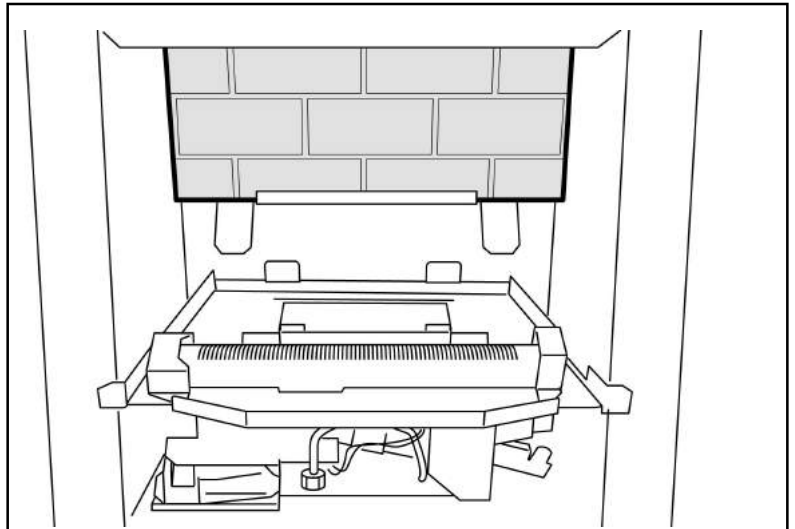

Figure 28. Ceramic rear wall installation
1. Fit the ceramic rear wall inside the “L” bracket on the back face of the burner compartment. Push the ceramic wall flat against the back face of the burner compartment (See figure 28).